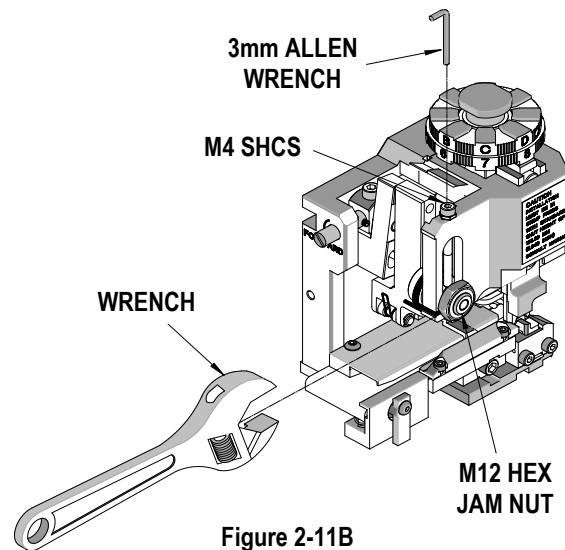

Figure 2-11B
3. Loosen the M12 hex jam nut to permit up and down movement of the hinge bushing. See Figure 2-11B.
6. To achieve the correct back stroke location, adjust the position of the hinge bushing. Lowering the hinge bushing in the support slot will shorten the stroke; raising the hinge bushing will lengthen the back feed stroke. See Figure 2-11B.